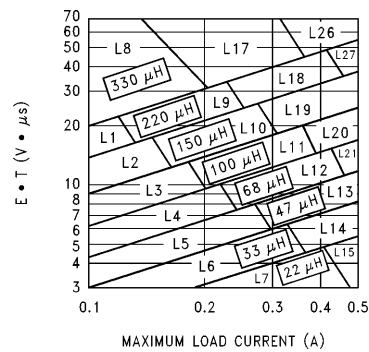

FIGURE 8. LM2594-ADJ
B. Use the $E \cdot T$ value from the previous formula and match it with the $E \cdot T$ number on the vertical axis of the Inductor Value Selection Guide shown in *Figure 8*.
D. From the inductor value selection guide shown in *Figure 8*, the inductance region intersected by the 35 ($V \cdot \mu s$) horizontal line and the 0.5A vertical line is 150 μH , and the inductor code is L19.